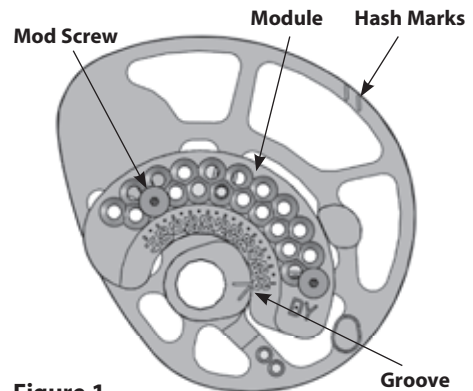

Figure 1
1. Using an Allen wrench, remove the "Mod screws" that attach the module to the cam (See Figure 1). Note: Depending on your draw length, you may need to press the bow to be able to access all screws for removal.